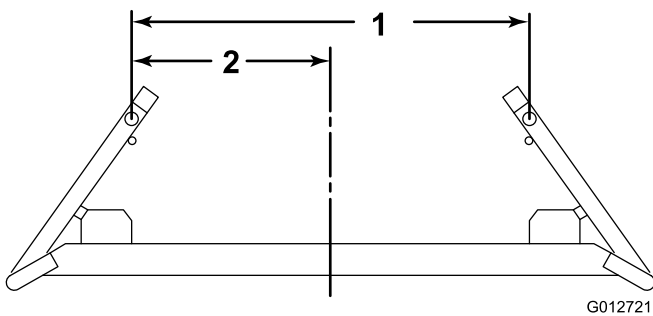

Figure 7
7. If the Transport Frame is to be used on a public road, the overall width of the frame and the mowers may not exceed 8 feet. The clevis on the end of the hydraulic cylinders and the arm stops may be adjusted to attain the desired width shown in Figure 7.